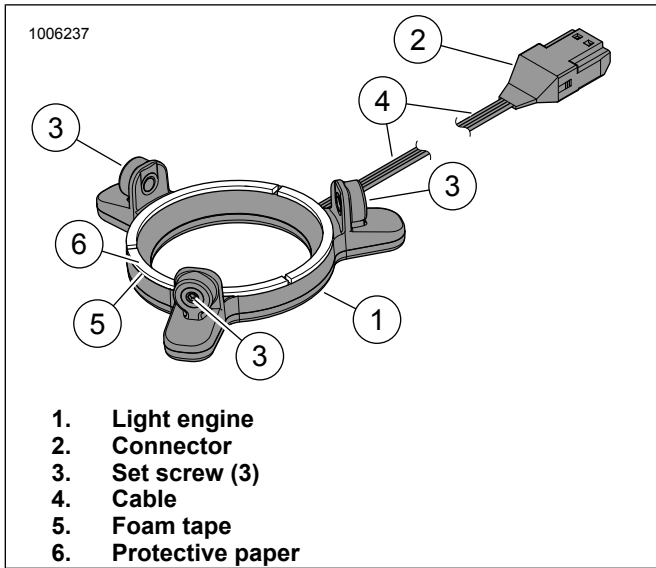

Figure 2. LED Light, Round Stage II Speaker
3. See Figure 2. Remove protective paper (6) from foam tape (5) on back of light engine (1).